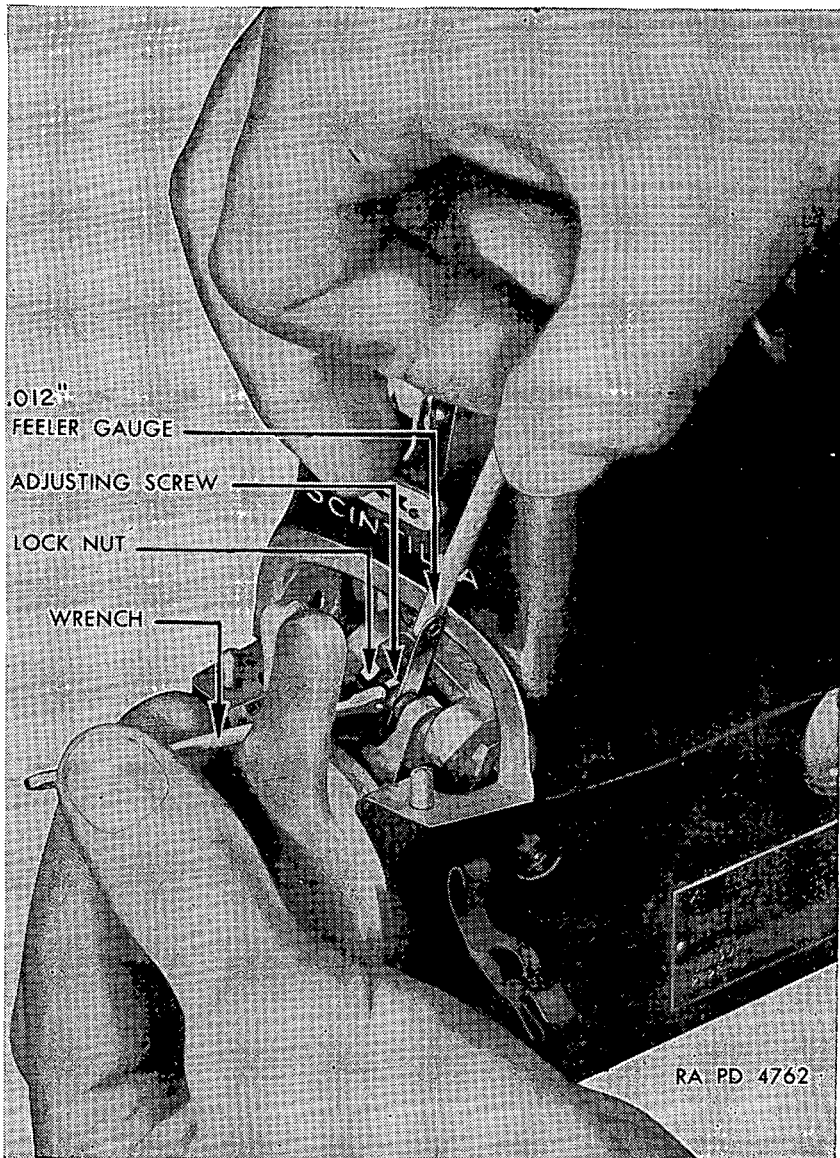

FIGURE 24.—Magneto breaker point gap adjustment.
b. Breaker point adjustment (fig. 24).—Release safety ring on both sides of the magneto and remove the breaker cover. Hand crank the engine until the breaker points reach their maximum gap. The correct gap is 0.012 inch. If the gap is less than 0.010 inch or more than 0.014 inch loosen the lock nut on the stationary contact screw and reset the screw using the 0.012-inch feeler. When the correct gap is obtained tighten the lock nut.